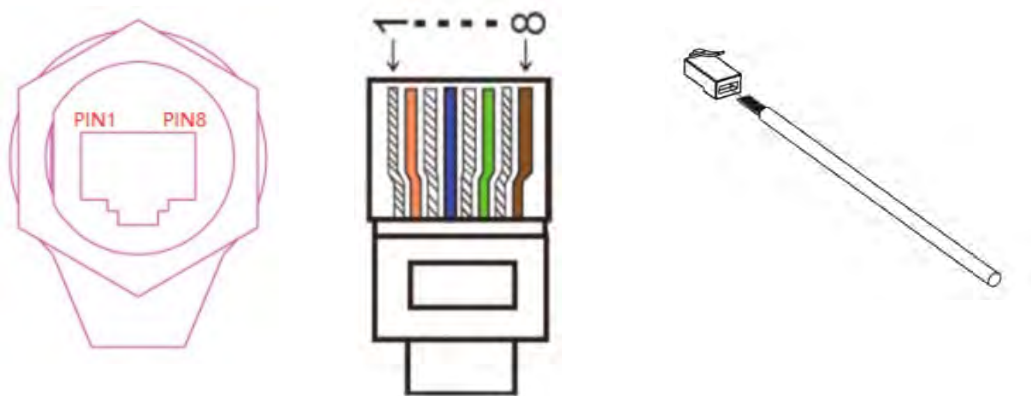

Figure185 – Connecting the DRMs interface (1)
- 1) Position the wire terminals according to the colour sequence shown in Figure185.